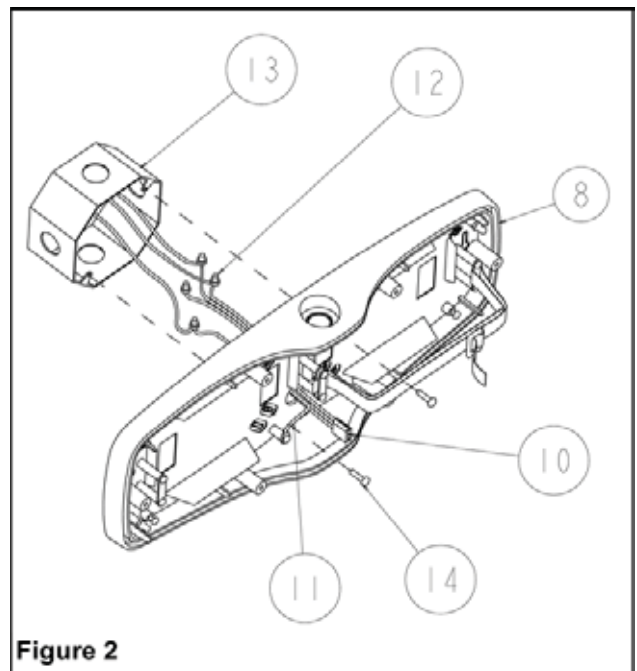

Figure 2
#### Wall mounting on a junction (figure 2)
- c. Remove AC harness from electronic module. Wire to AC circuit wires using wire nuts (see figure 2). Refer to hookup instructions on page 2.
- d. Install the gasket on the back plate. Feed AC harness and the ground through the large hole in the backplate (see figure 2). Mount to J-box using the J-box screws (not provided). J-box should be properly secured directly to a stud.